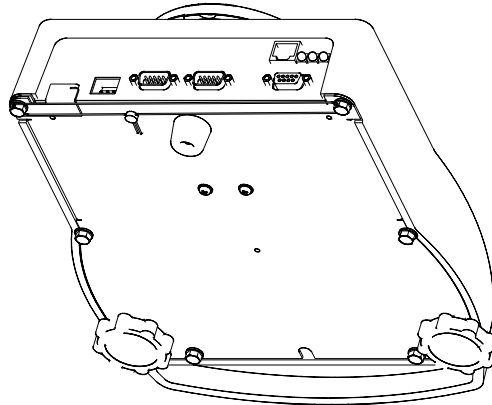

Figure 12: Physical Seal
The most common sealing method is a lead-wire seal. The Model 672 provides an easy means of applying this type of seal as shown in Figure 12.
3. Install the program switch cover over the program switch hole on the back panel. The cover will loop over the back panel and bottom plate. Refer to Figure 12.